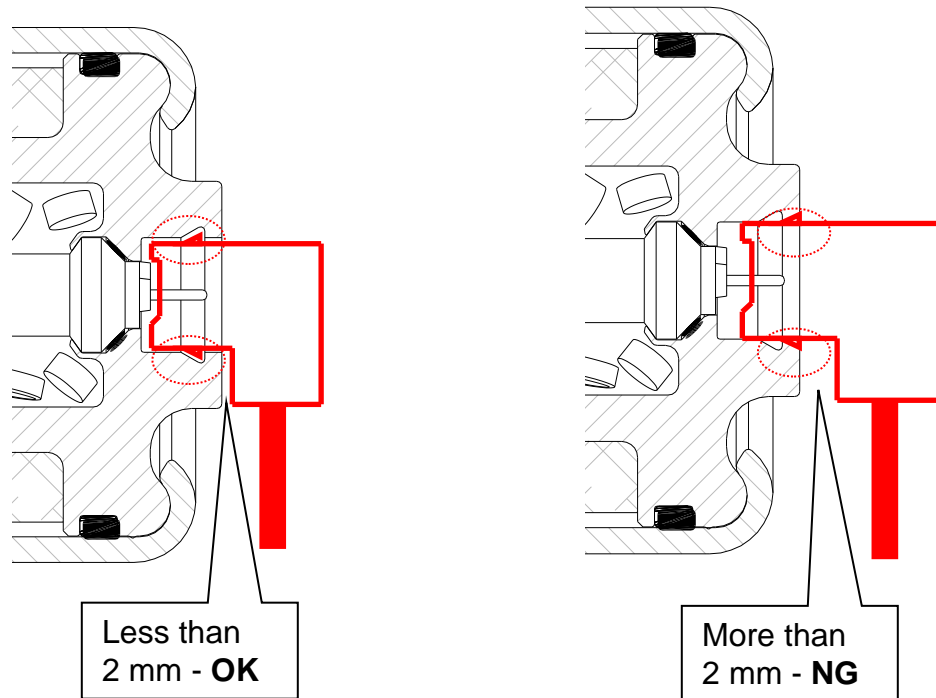

Figure P19
- Make sure harness connector is fully engaged / seated (see Figure P19).